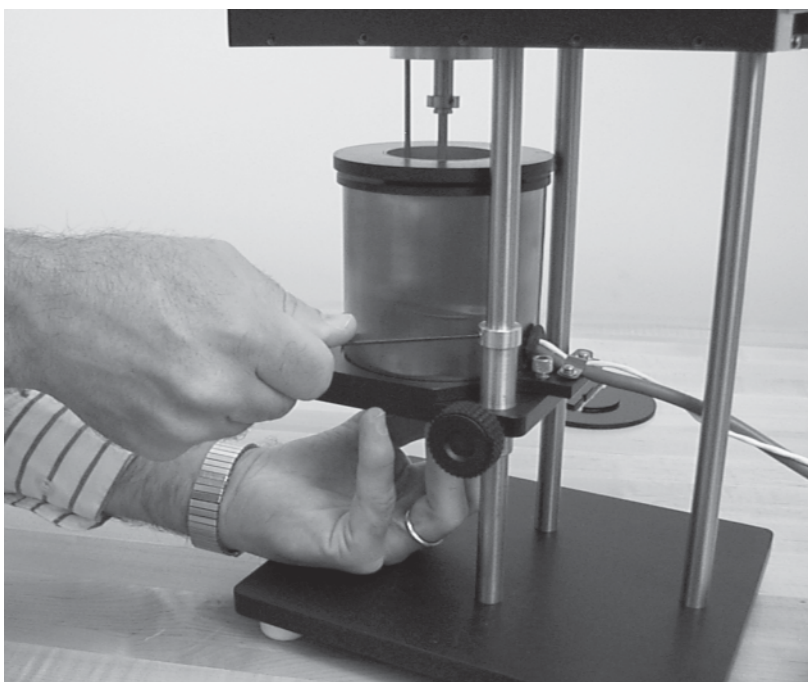

Figure 5: Securing the stop collar at the correct height
4. Retighten the set screws when the tray mechanism is at the correct height (see *Figure 5*).